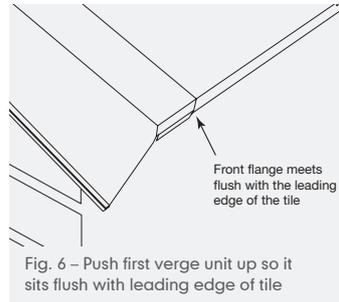

Fig. 6 – Push first verge unit up so it sits flush with leading edge of tile
- Push the verge unit up so that the front flange meets flush with the leading edge of the tile (Fig. 6). Fix the verge unit to the tiling batten by means of mechanical